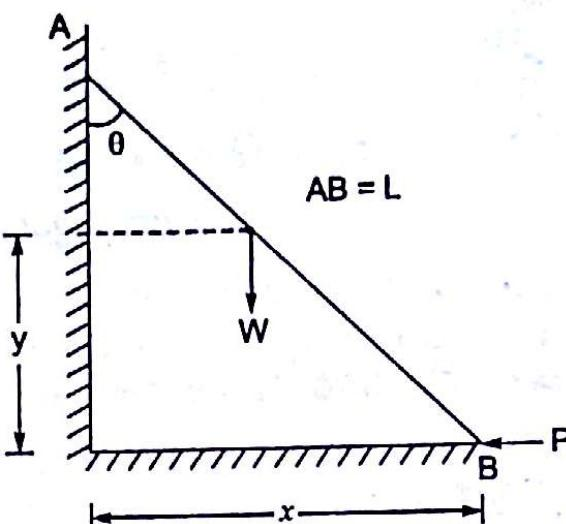

Fig. 3.68
3.13 A ladder AB of weight W and length L , is held in equilibrium by a horizontal force P as shown in the Fig. 3.68. Assuming the ladder to be idealized as a homogeneous rigid bar and the surfaces to be smooth, which one of the following is correct.